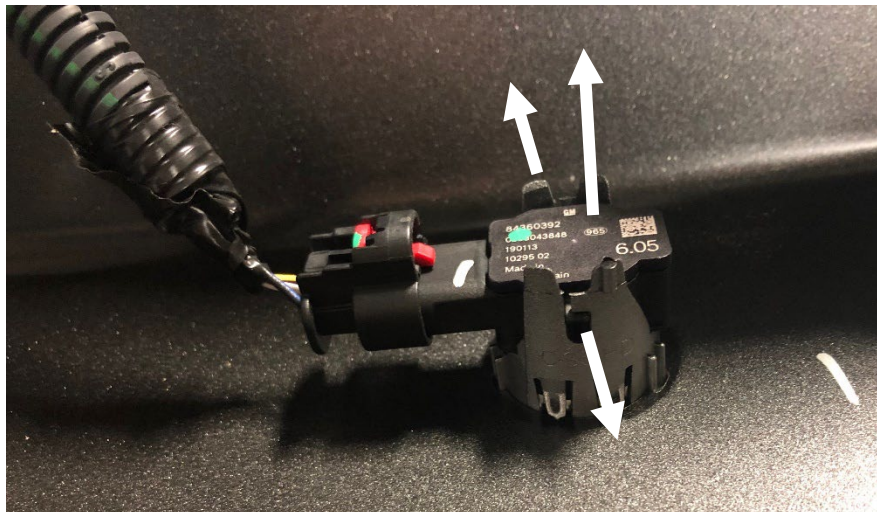

Figure 19
18. Carefully remove the four sensors and sensor housings from the bumper by spreading the housing clips out and pushing the sensor out simultaneously. Make sure to mark the position of each housing for installing into the WARN bumper. (Figure 19)